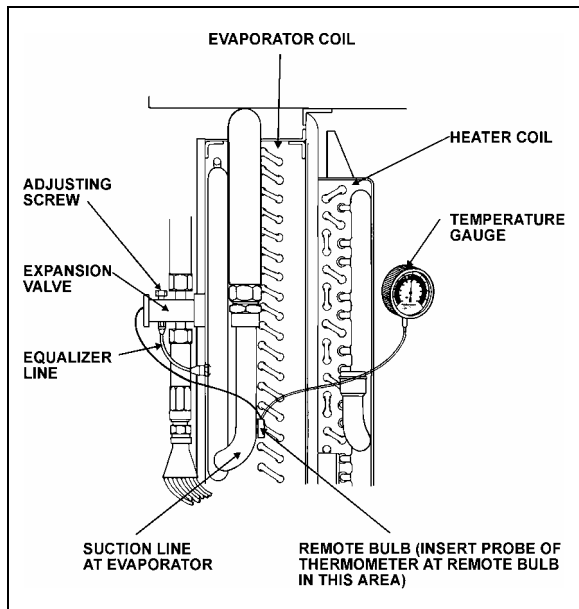

FIGURE 36: SUPERHEAT ADJUST. INSTALLATION 22046
The easiest method of adjusting the superheat is to unscrew completely the main evaporator expansion valve adjusting screw, and screw in 13 turns clockwise for 134A (Figure 36). If this method does not provide an accurate superheat, the following procedure should be followed:
3. Install a remote reading thermometer to the evaporator outlet line near the existing remote bulb (Figure 36).